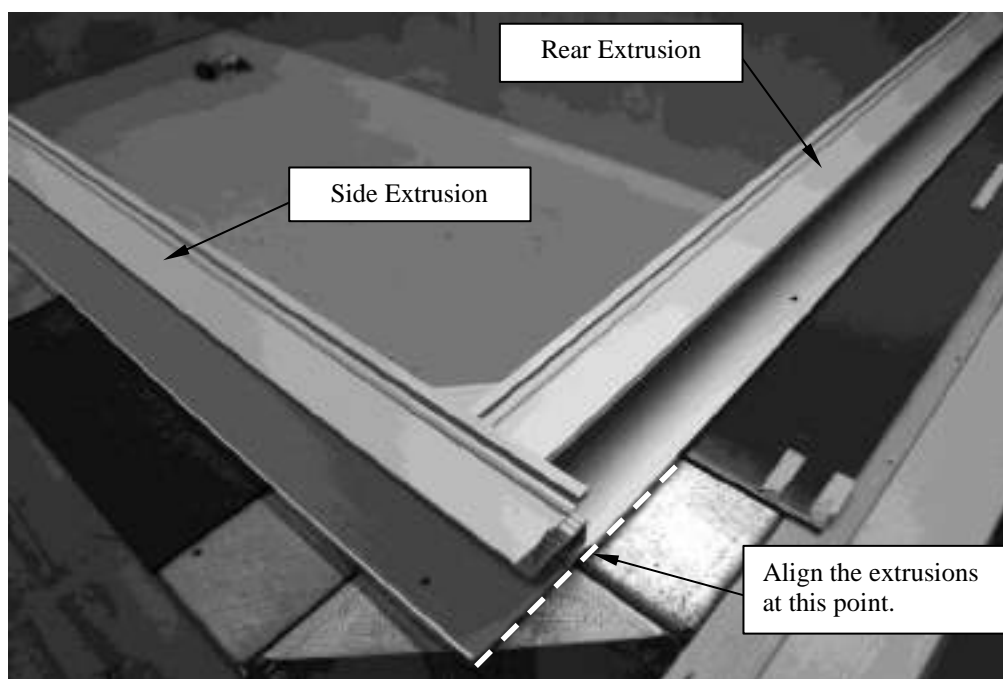

Fig 11
1. Place the 6-1/2" (16,5cm) ABS shims all around the top flange of the pool, *except* on the reinforcing channel, so that they are aligned with the inside edge of the pool. (Fig 11)
2. There are (5) lengths of combination in-wall cover track and liner hanger. There will be one extrusion that is the width of the pool (it may have the Snap-In face already installed); that goes at the rear of the pool.
6. Once the front and rear extrusions are in place, lay down the side combination in-wall cover and liner track extrusion so the liner hanger is facing the inside of the pool and the black plastic cover guides are at the front end of the pool. At the rear of the pool the side extrusion should line up with the back edge of the rear extrusion. (Fig 11)